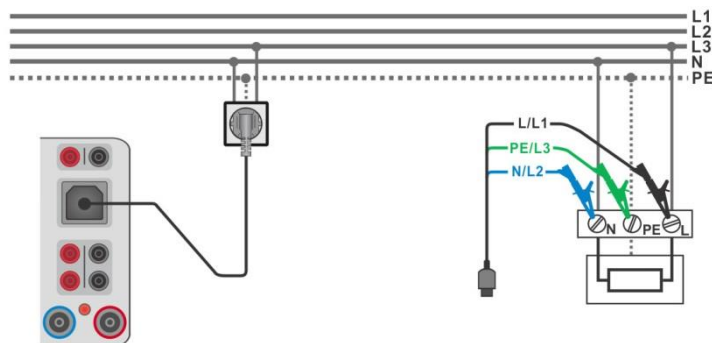

Figure 6.65: Connection of Plug test cable or 3-wire test lead
- › Connect 3-wire test lead or Plug test cable to the object under test, see **Figure 6.65**.